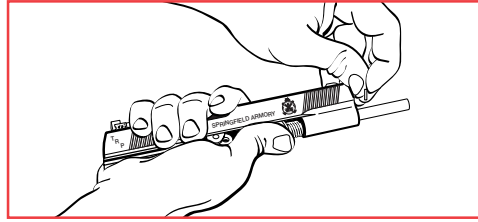

Figure 33-1
1. Push recoil spring assembly forward to expose a small, pin-sized hole. (Fig. 33-1)